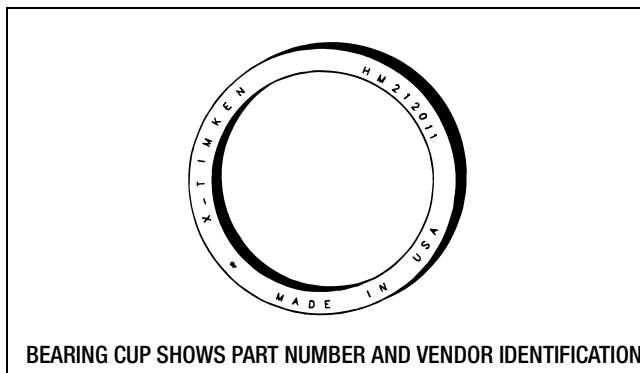
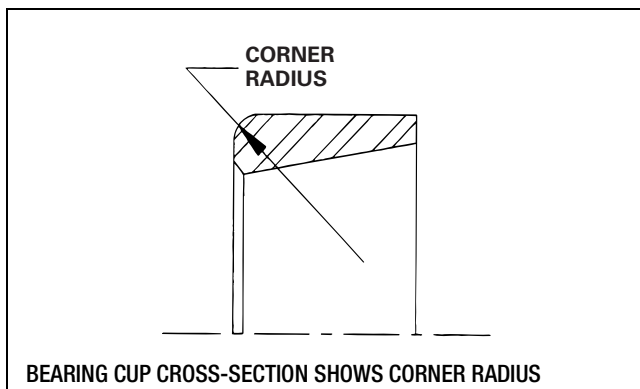

Figure 4.3
Figure 4.4
6. Check the numbers on the cup and cone and compare them to the catalog application to ensure that you are assembling the correct bearing cup and cone. Some bearings are identical except for corner radii, and can be easily confused. Figure 4.3 and Figure 4.4. If you mix cups and cones, the spindle locking nuts will not fit correctly, and the hub will not be secured to the axle.